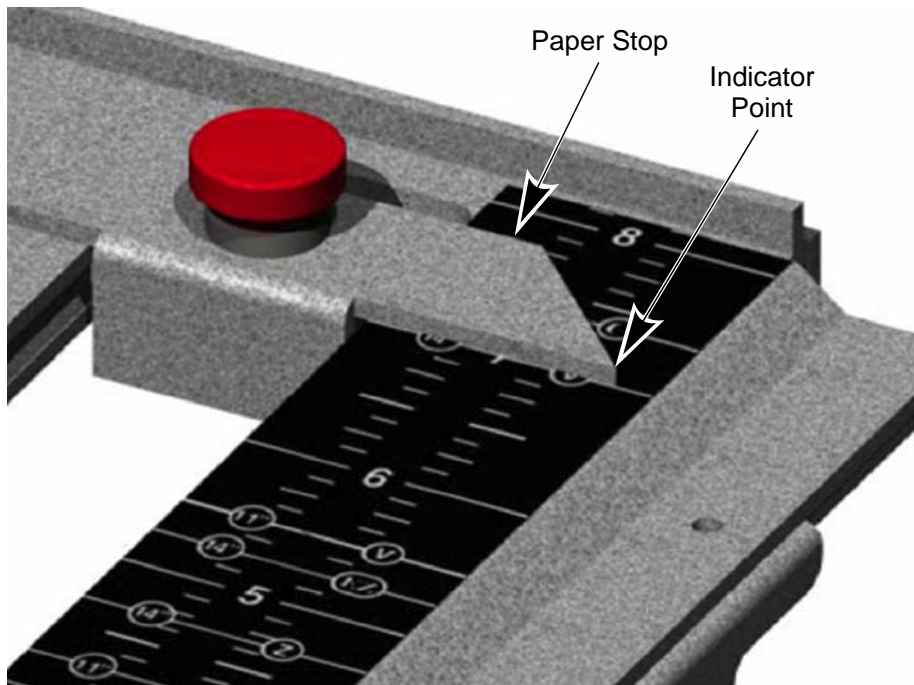

Figure 14: Paper Stop Alignment
3. Line up the tips on both sides of the paper stop with the appropriate line on the scale so that the appropriate white line on the scale is just visible [see Figure 14].